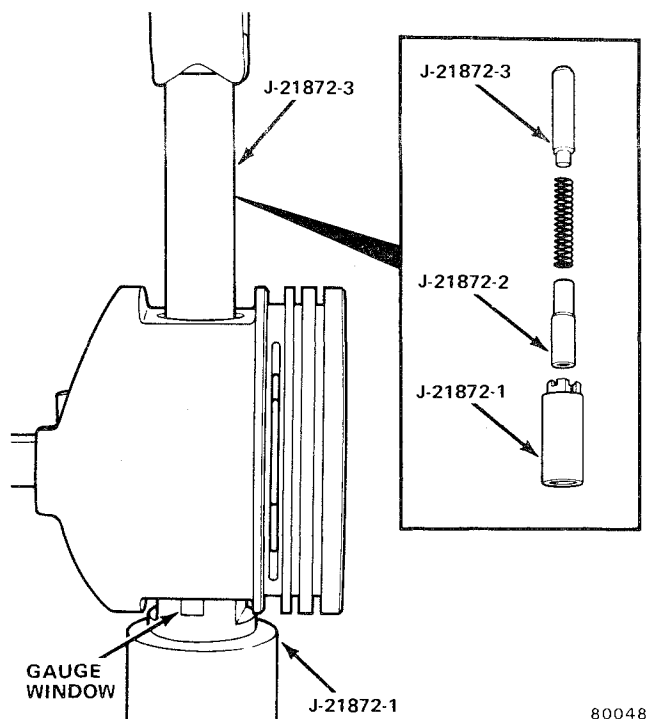

Fig. 1B-50 Piston Pin Removal or Installation
- (1) Insert Pin Pilot J-21872-2 through piston and connecting rod pin bores (fig. 1B-50).
- (2) Position pin pilot, piston and connecting rod on Support J-21872-1.
- (3) Insert piston pin through upper piston pin bore and into connecting rod pin bore.
- (4) Position Piloted Driver J-21872-3 inside piston pin.
- (5) Use arbor press to press piston pin through connecting rod and piston until pin pilot indexes with mark on support.